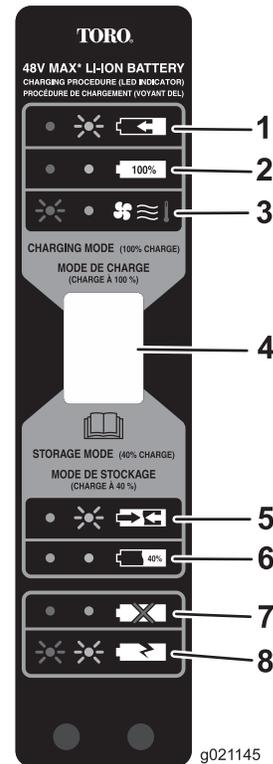

Figure 3
5. Refer to Figure 3 to interpret the LED indicators on the battery charger.
Use storage mode (Figure 3) when the battery will not be used for 1 month or longer.
4. When the battery is ready for storage (Figure 3), remove the battery from the charger.